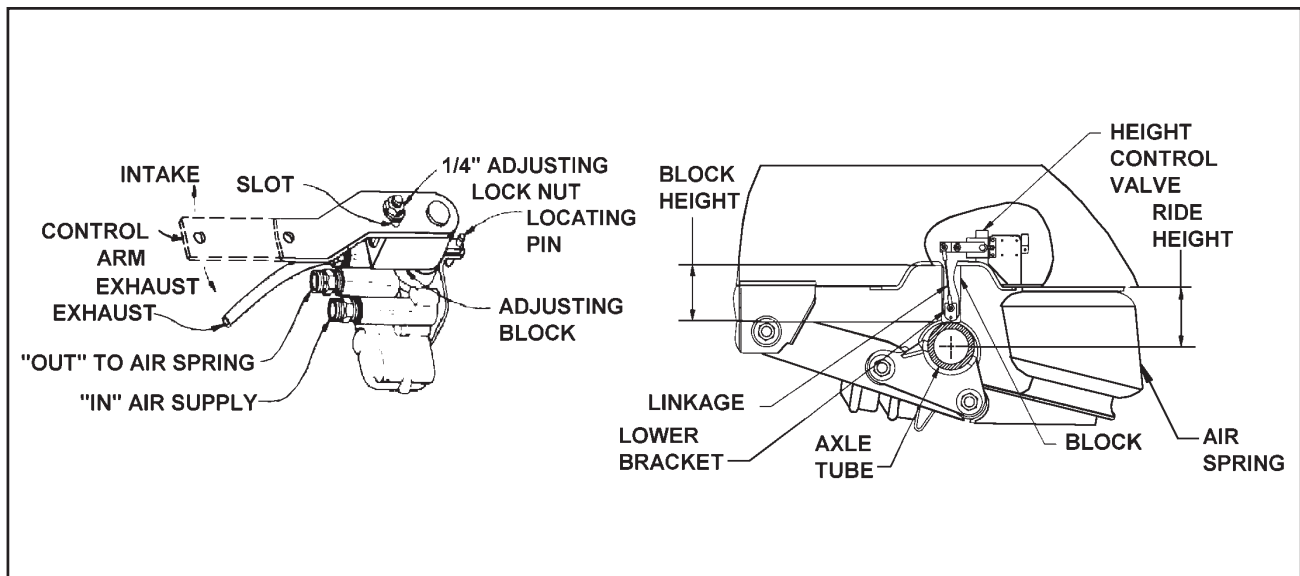

Figure 4-6 Air Ride Height Adjustment
4-6.2 Tandem Axle Air Ride Height Adjustment. (See Figure 4-6 for parts identification).
- Disconnect linkage at the control arm and raise control arm to the "up" position, raising the trailer until a block can be placed between axle tube and undercarriage frame (See Figure 4-6).
- f. Loosen the 1/4" adjusting lock nut located on the adjusting block, allowing the control arm to move approximately 1 inch. Move the adjusting block until holes align, then insert locating pin. (See Figure 4-6).